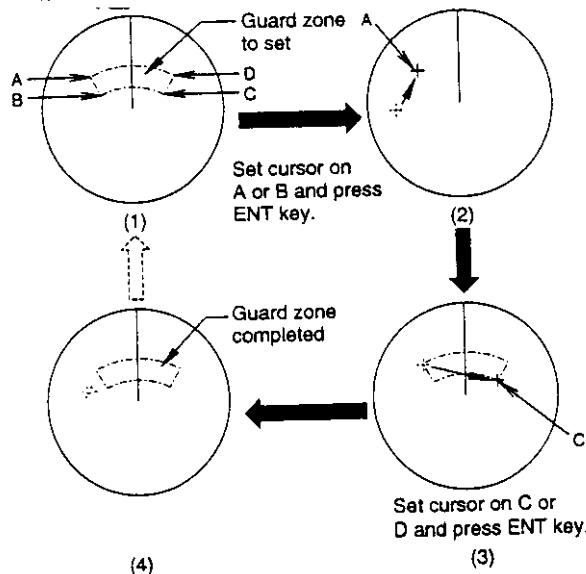

Figure 2-19 How to set the guard zone
5. Referring to Figure 2-19, operate the omnipad to set the cursor on point A or B. Press the [ENT] key. "*G (IN)" or "*G (OUT)", with asterisk blinking, appears at the top right-hand corner of the display. The asterisk indicates the guard zone is partially set.